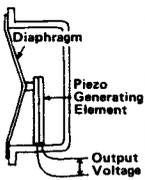

FIGURE 1—
**Ceramic and Crystal Generating Elements.** The diaphragm of a crystal or ceramic microphone is attached to a special material which produces an electric output voltage when it is moved. Such materials are termed "piezoelectric." A typical ceramic microphone is diagrammed in Figure 1. Such microphones generally provide insufficient fidelity and ruggedness, even for the most modest requirements of the professional and serious amateur.